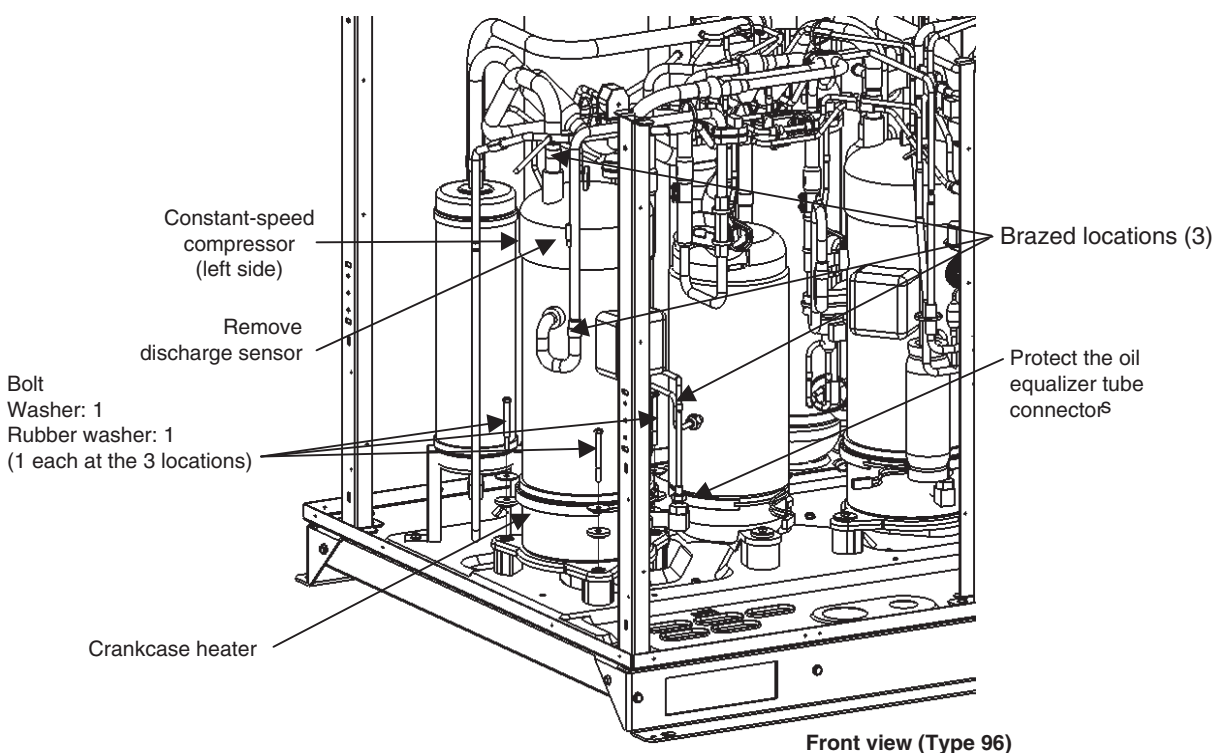

Fig. 25
- (7) Disconnect the 3 brazed locations shown in the figure 25.
- (8) Pull the compressor toward you.